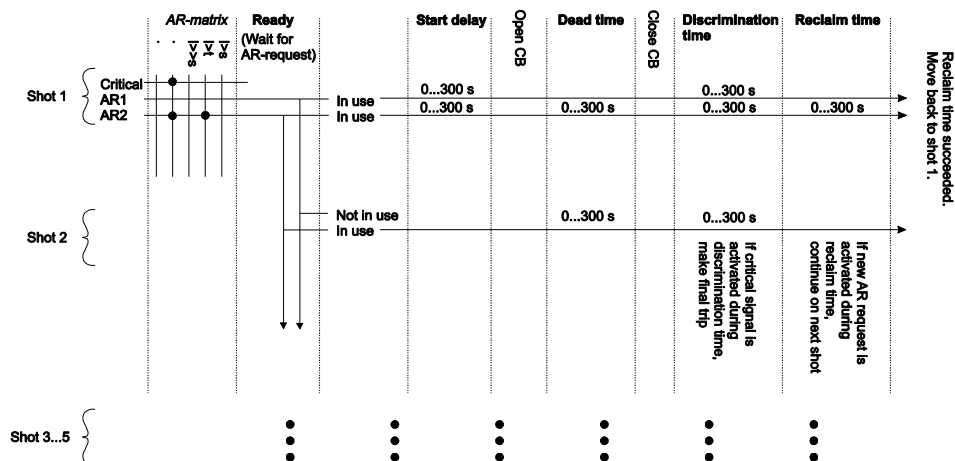

Figure 5.7-1 Auto-reclose matrix
The auto-reclose (AR) matrix in the following Figure 5.7-1 describes the start and trip signals forwarded to the auto-reclose function.